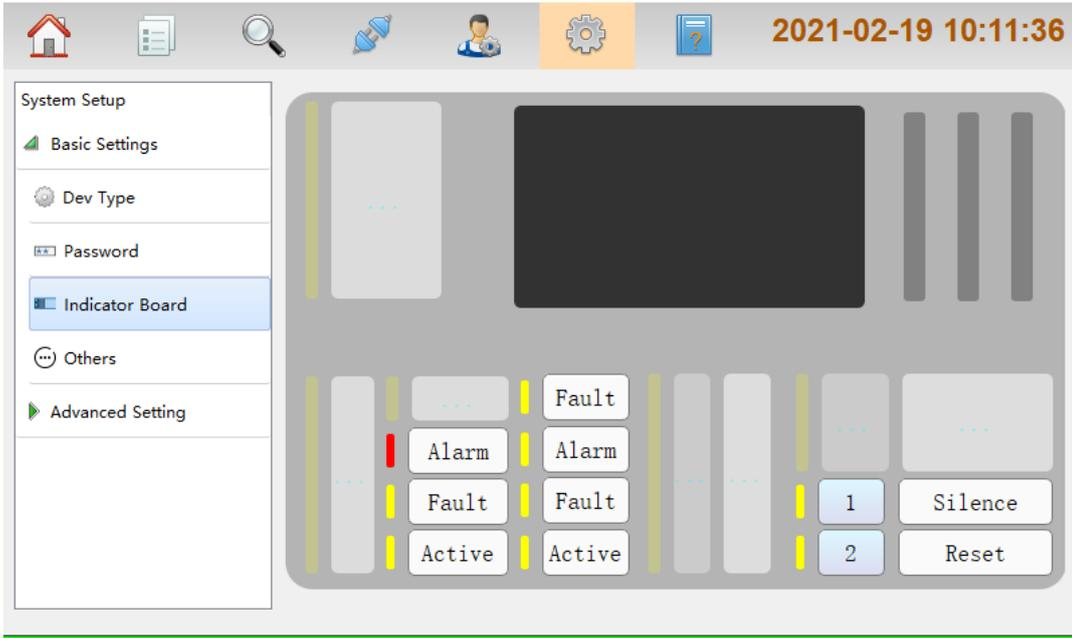

Fig. 5-4
- Indicator Board: Clicking **Indicator Board**, Indicator Info can be displayed on the right of the screen, including Defined Led Qty. and Defined LedKey Qty. Refer to Fig.5-4 for details.